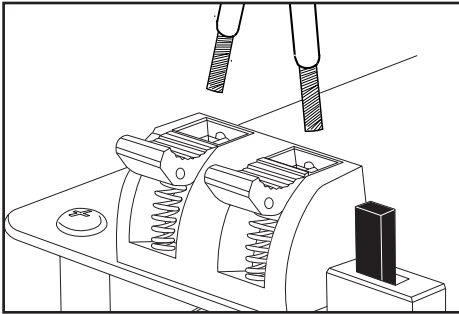

Figure 15. Connecting a speaker wire to the HDLCR terminals.
2. On each set of speaker connectors, press down the spring-loaded lever, insert the appropriate conductor, and then release the lever, as shown in **Figure 15**. Gently tug on the speaker wire to make sure it is held in place. If not, repeat this procedure until it is.